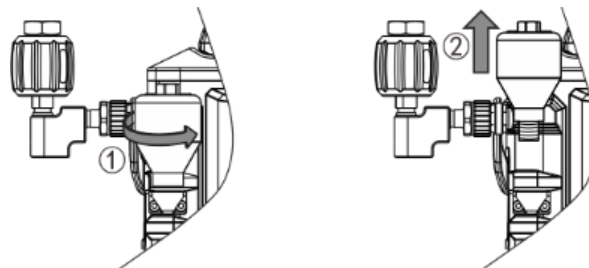

Figure 29 Disassembling the accumulator
- ◆ First, disassemble the accumulator from the unit (steps shown in Figure 29).